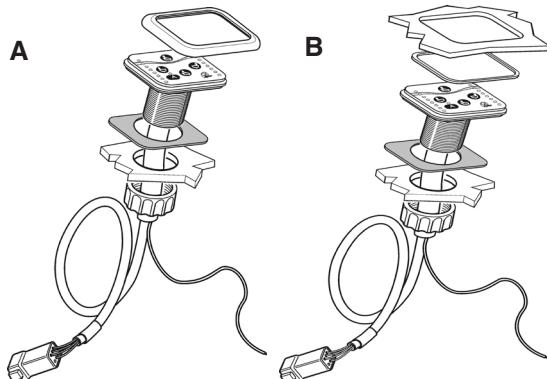

Fig. 26
Install the control panel (B), **see figs. 1, 3 and 26** within easy reach at the helm station. Hole diameter 52 mm. **See Fig. 3**. Use the gasket included in the kit. (**See Fig. 26A**). If the panel is to be installed flush with its surrounding surface, press out the center part of the gasket and use the remainder for installation.**see Fig. 26 B**. See also the control panel hole template at the end of these instructions.
Install the control panel (B), **see figs. 1, 3 and 26** within easy reach at the helm station. Hole diameter 52 mm. **See Fig. 3.** Use the gasket included in the kit. (**See Fig. 26A**). If the panel is to be installed flush with its surrounding surface, press out the center part of the gasket and use the remainder for installation.**see Fig. 26 B.** See also the control panel hole template at the end of these instructions.